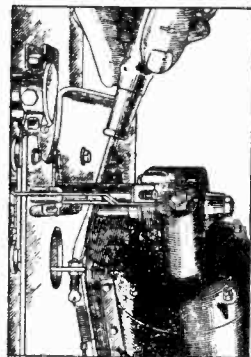

Figure 7—Adjusting tone arm cable tension screw
- (e) Incorrect adjustment of cable tension screw. The cable tension screw shown in Figure 7 should be so adjusted that the needle will lower smoothly onto the record without drooping. When this adjustment is obtained, the cable will be slightly loose when the needle is lowered onto a record. Loosen the lock nuts, turn the screw to the right or left as required and retighten the lock nut. Check the adjustment to make sure that the needle clears the record on the return of the tone arm. The needle should rise $\frac{1}{16}$ " from the record before any horizontal motion takes place.
(5) NEEDLE FAILS TO CLEAR RECORD AFTER PLAYING